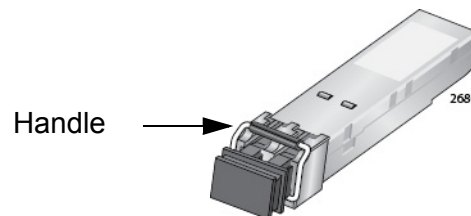

Figure 61. Handle on SFP+ Module
2. To install the transceiver in the S1 slot, position it with the handle on top, as shown in Figure 61. To install it in the S2 slot, position it with the handle on the bottom.